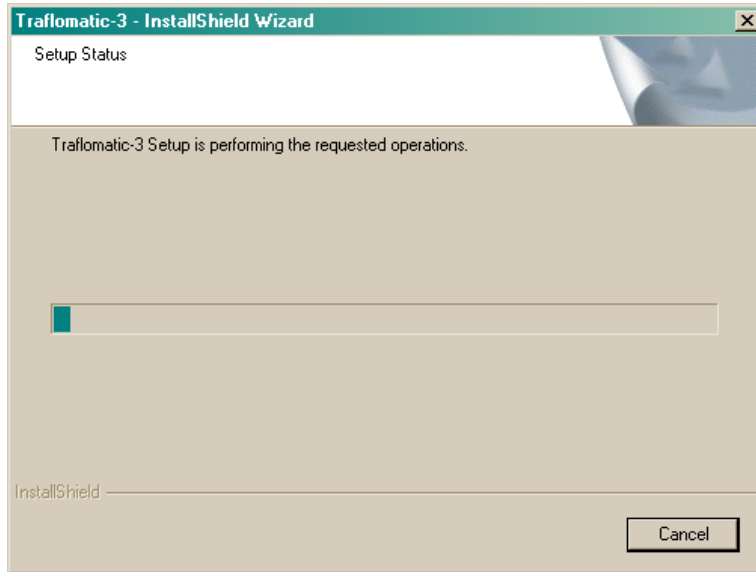

Figure 10
6. The Setup Status window will appear (Figure 10) showing the user the status of the installation procedure. Immediately upon completion of copying the FREEDOM Tool software, the Installation program will begin installing the necessary files for the Security Key Device. Upon the completion of the Security Key Software Installation a window similar to Figure 11 will appear. This window informs the user that the **Az-Tech Device Drivers Setup** is complete and the user should select Finish to complete the installation. At this time select the **Finish** pushbutton on the screen to complete the **Az-Tech Device Driver Setup** and continue with the FREEDOMWare Installation.